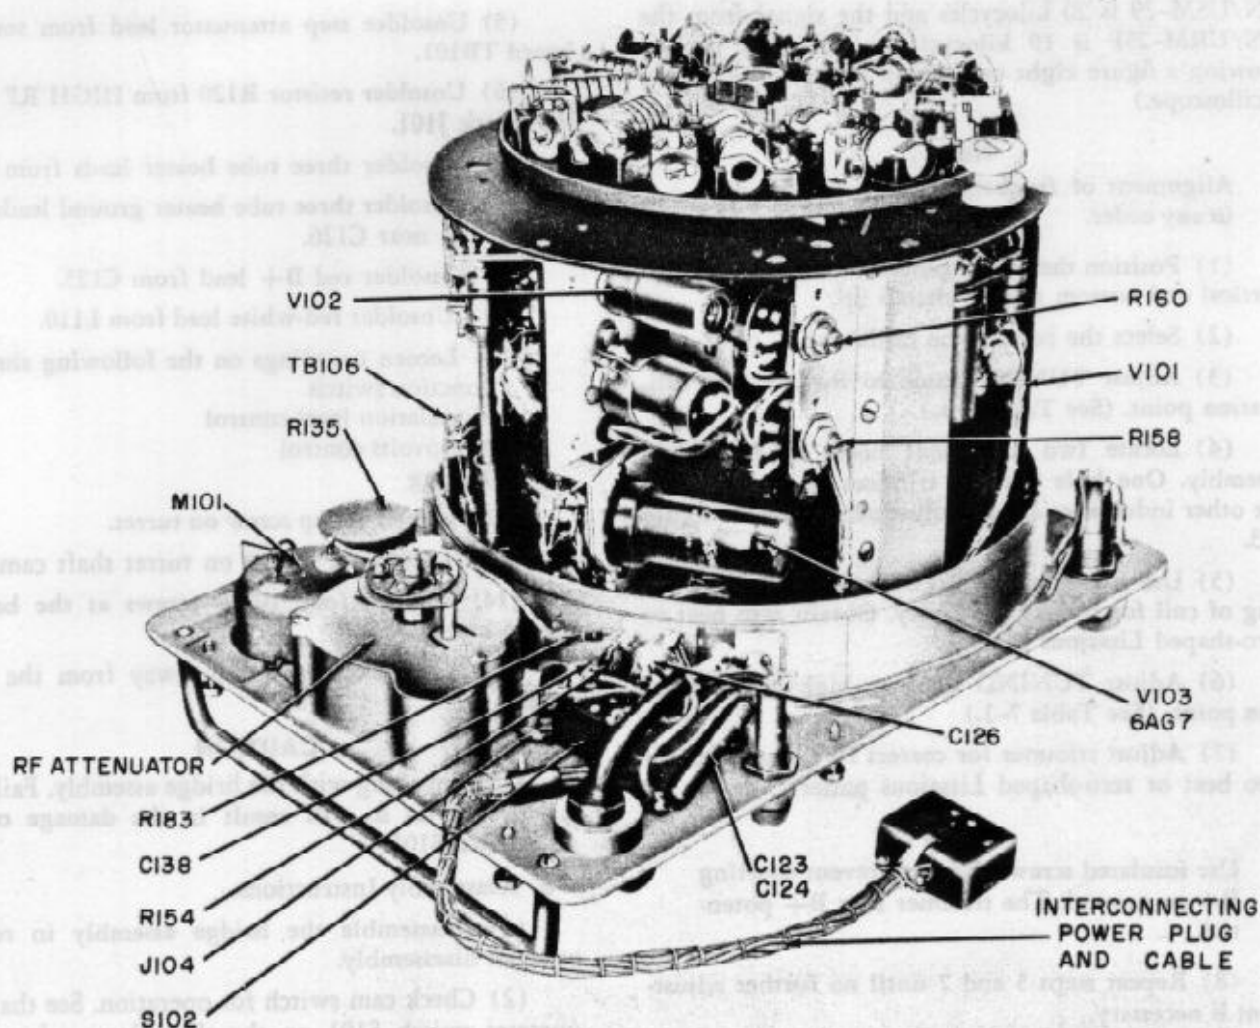

Figure 7-8. Bridge Assembly Components
- (1) Reassemble the bridge assembly in reverse order of disassembly.
- (2) Check cam switch for operation. See that cam operates switch S101 on the three lowest frequency bands (10 kilocycles to 220 kilocycles).
- (3) When tightening the coupling on the frequency control shaft, follow the procedure in section 7-13, paragraphs *b* (4) through *b* (11).
18. RF METERING CALIBRATION. (See figure 7-8.)
19. PERCENT MODULATION METER CALIBRATION. (See figure 7-8.)